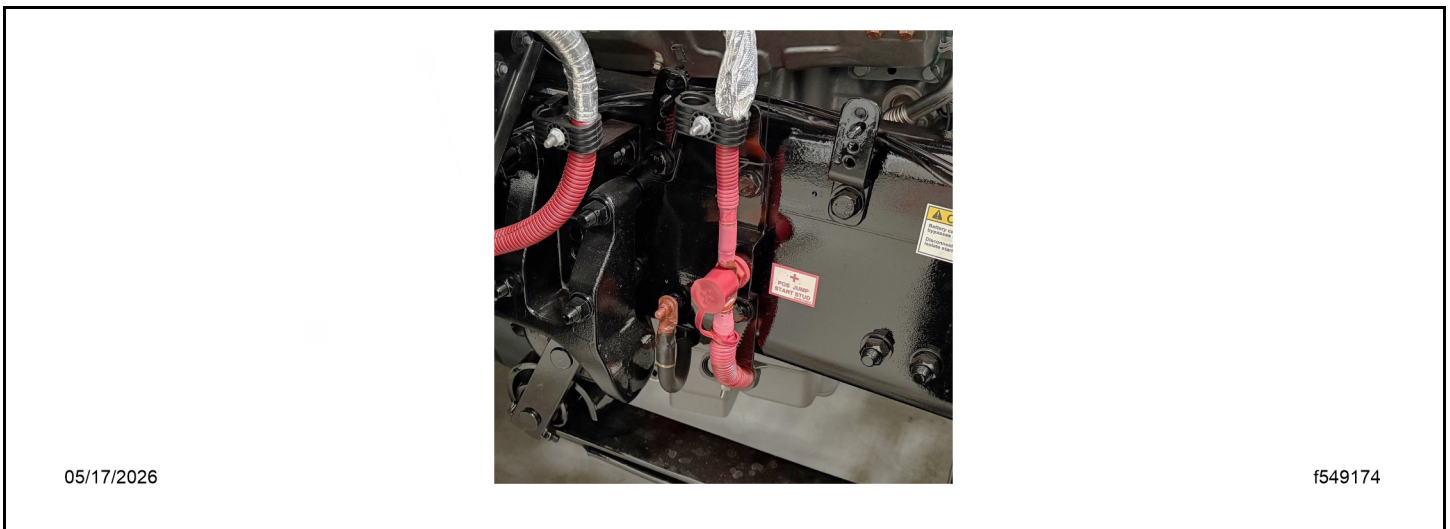

Fig 4, Isolated Battery Junction with Jump-Start Post
5. Locate the isolated positive (+) battery stud mounted on the frame behind the front wheel. See Fig. Fig. 4.